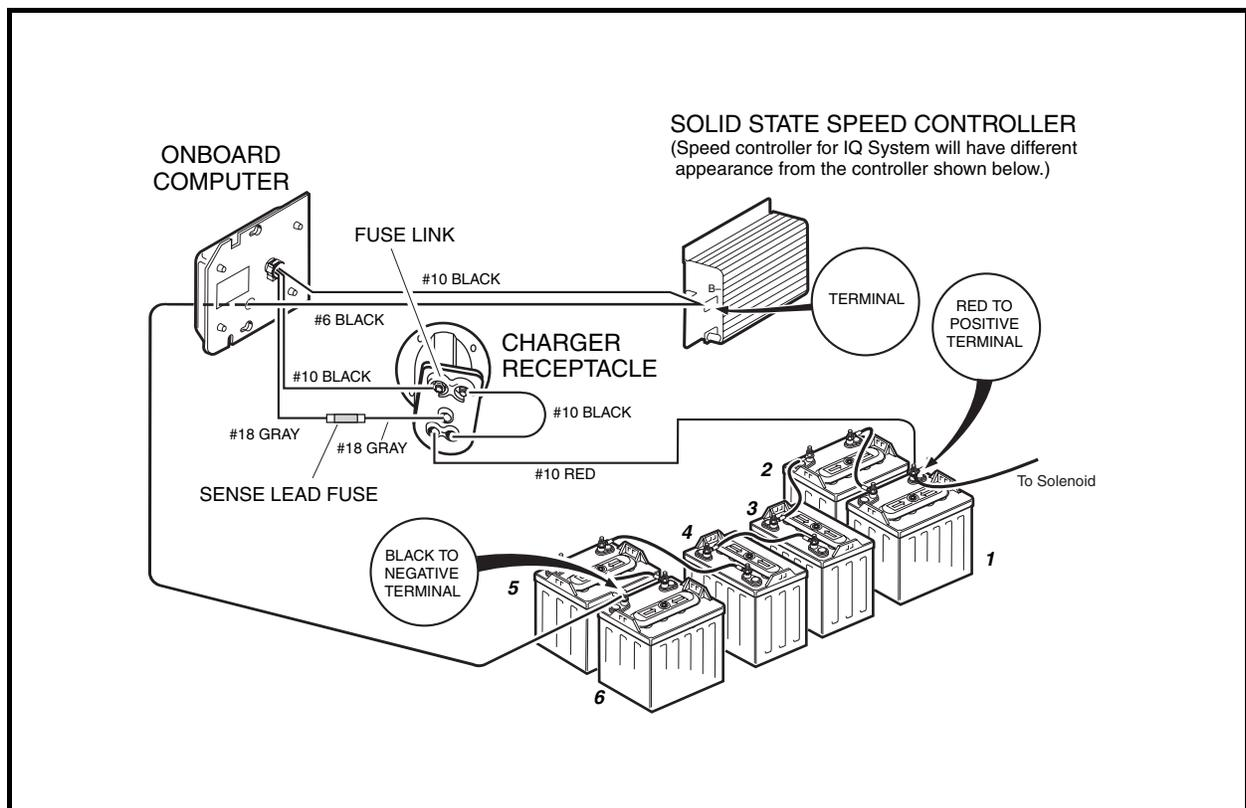
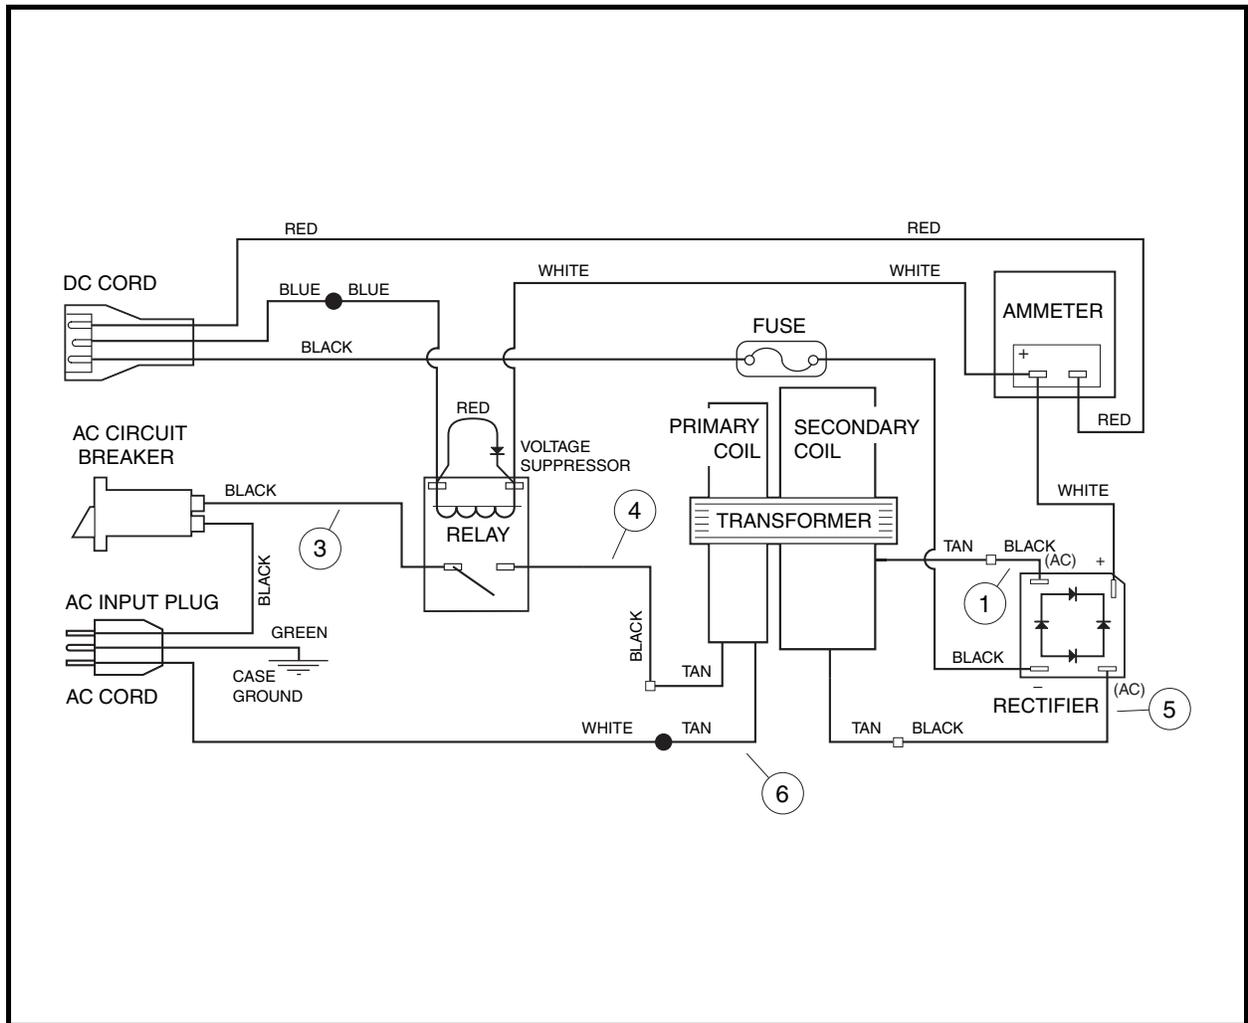

Figure 5-2 Charge Circuit and Battery Configuration – DS Vehicles
Figure 5-6 PowerDrive 2 Battery Charger Wiring Diagram (External Charger)
If the charger works with one vehicle, but does not work with another vehicle, then most likely the problem is in the vehicle charge circuit. Check the connections between the 18-gauge gray wire from the charger receptacle, the sense lead fuse (on all vehicles except Precedent vehicles), and the 18-gauge gray wire from the onboard computer. On all vehicles except Precedent vehicles, also check connections of the fuse link located on the charger receptacle (**Figure 5-2, Page 5-3 or Figure 5-3, Page 5-4**).
3. If the charger does not operate exactly as described above, refer to the wiring diagram and make sure that the vehicle is wired correctly (**Figure 5-2, Page 5-3**) and that the internal charger wiring is correct (**Figure 5-6, Page 5-8**).
- Knowledge of battery charger wiring and component terminology is required before attempting any repair (Figure 5-6, Page 5-8).